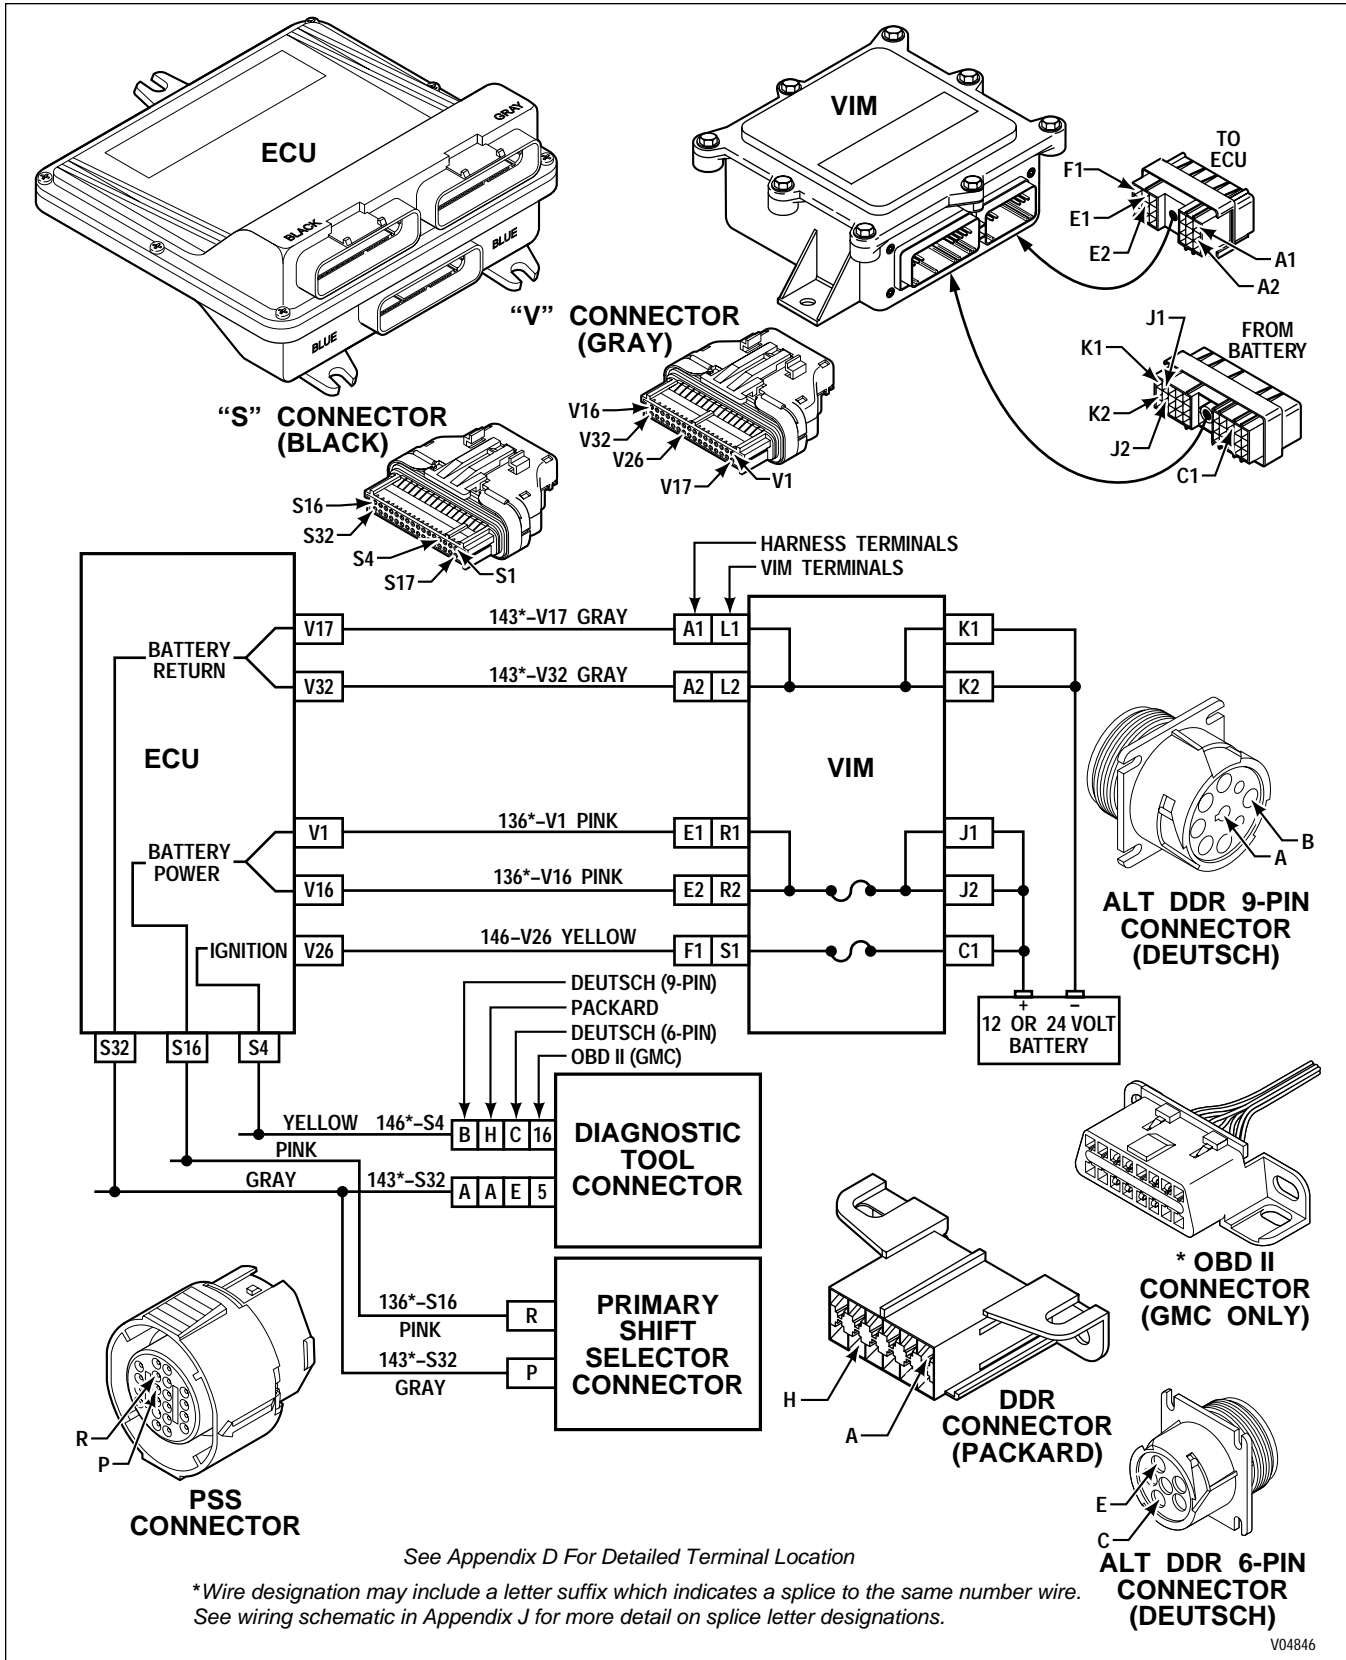

Figure 6-13. Code 35 Schematic Drawing
**CODE 35 XX — POWER INTERRUPTION** (Figure 6-13)